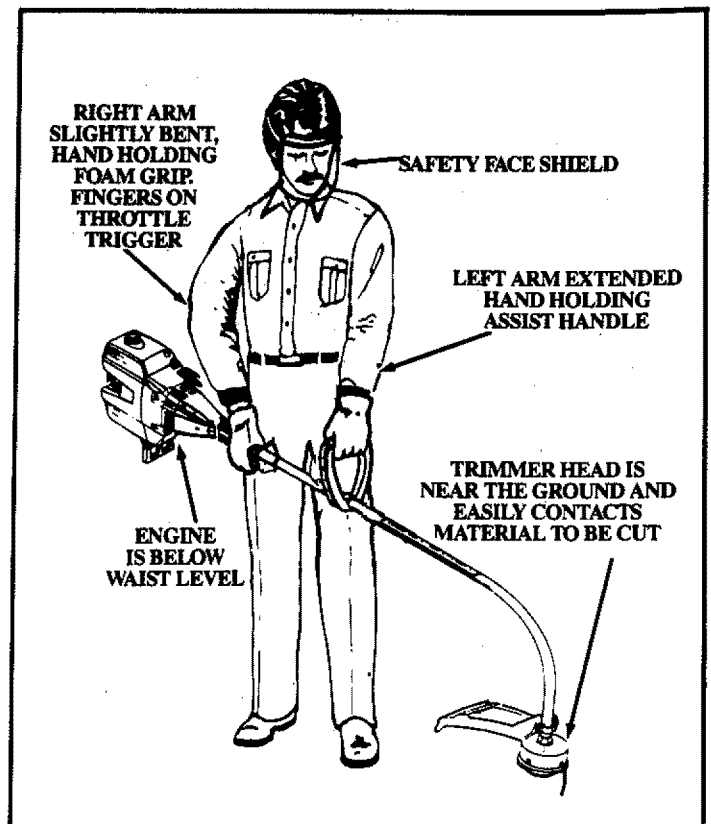

Figure 11
6. OPERATING POSITION – Figure 11
a. Before starting the Engine, stand as shown in Figure 11 and check for the following: